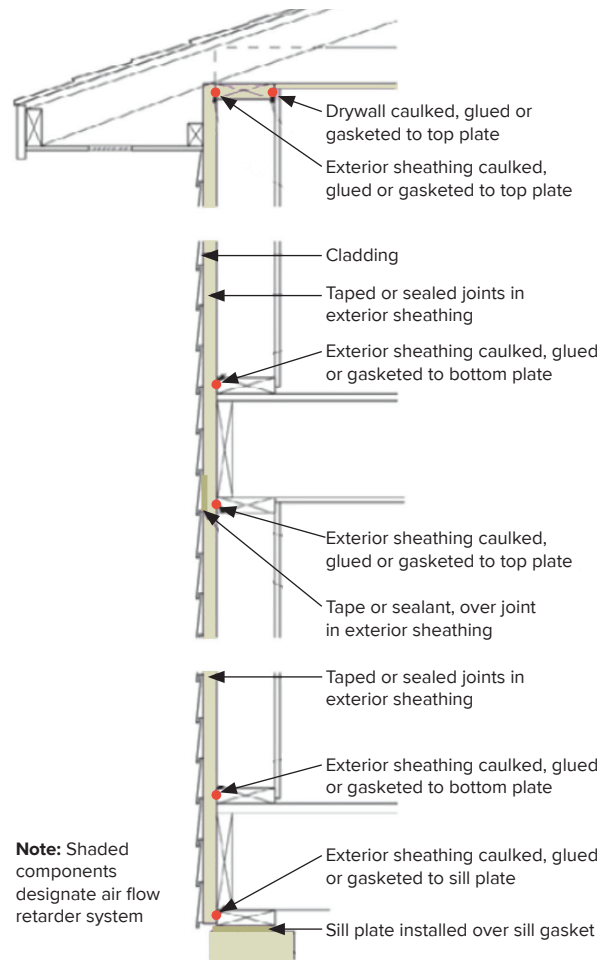

Figure 3. FPIS ci installed as an air barrier exterior sheathing.
When RULE #1 is followed and the FPIS ci is installed per Figure 3 as a code compliant air barrier, walls are less vulnerable to the consequence of air leakage for two reasons: (1) the FPIS ci will help limit air infiltration from the exterior (especially if it is also used as the WRB system, see RULE #3), and (2) it will also reduce the potential for moist air to condensate on or be adsorbed by moisture-sensitive materials inside the wall because it controls the temperature of those materials. Find more information on use of FPIS as an air barrier here.